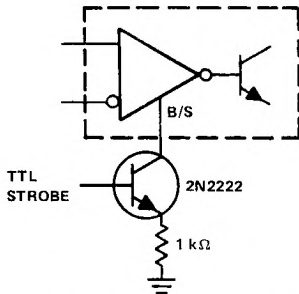

FIGURE 13. STROBING
6. The strobe should not be shorted to ground; it should be current driven at  $-3$  to  $-5\text{ mA}$ , e.g., see Figures 13 and 27.